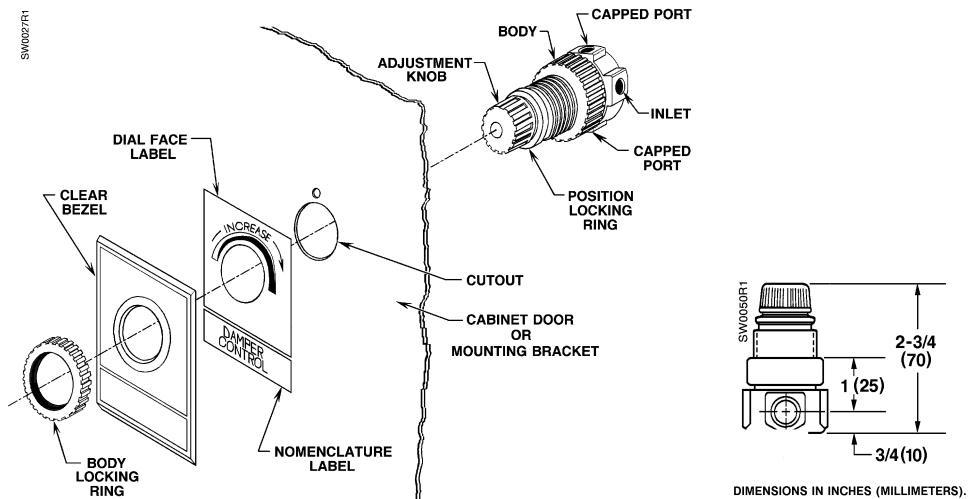

Figure 3. Mounting of the SW 141 Positioning Switch.
- Unscrew the body locking ring. Insert the switch body through the panel knockout from the back of the panel. See Figure 3.